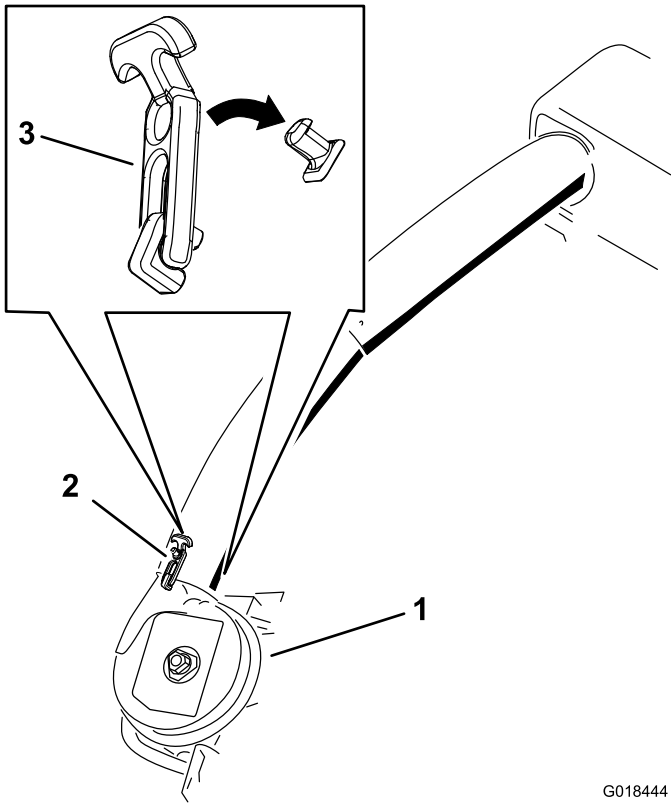

Figure 29
5. Use both latches to attach the lower tube to the blower assembly (Figure 29).
- Use both latches to attach the lower tube to the blower assembly (Figure 29).